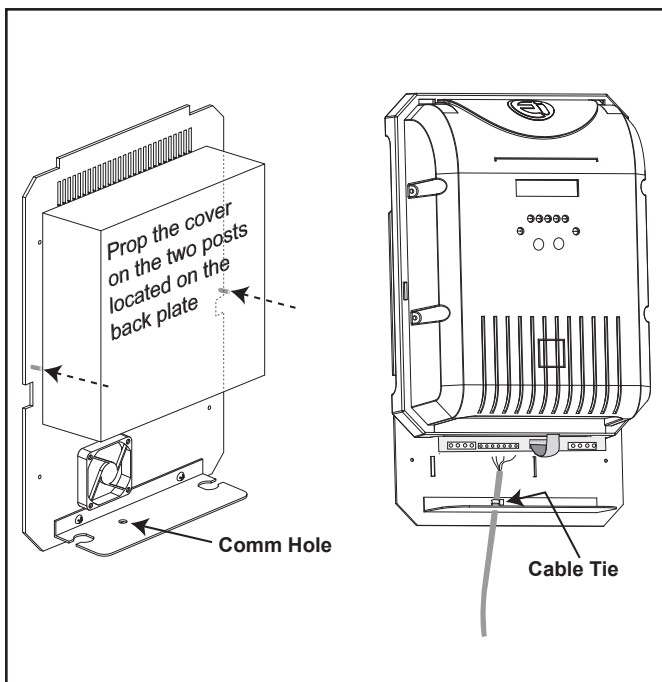

Figure 24. Accessing and Wiring to the Power PCB
2. Remove the screws attaching the cover to the back plate and prop the cover up to expose the terminals (see Figure 24).
3. Remove the white cap covering the comm hole (see Figure 24).
5. Attach a cable tie to the controller cable as shown (see Figure 24).